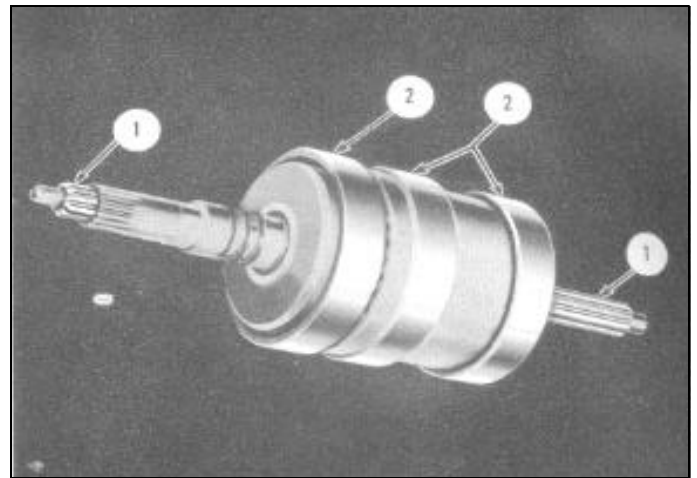

FIGURE 9
7. A mainshaft assembly, Figure 9, supported in the transmission case at the rear by a ball bearing and at the front by the front